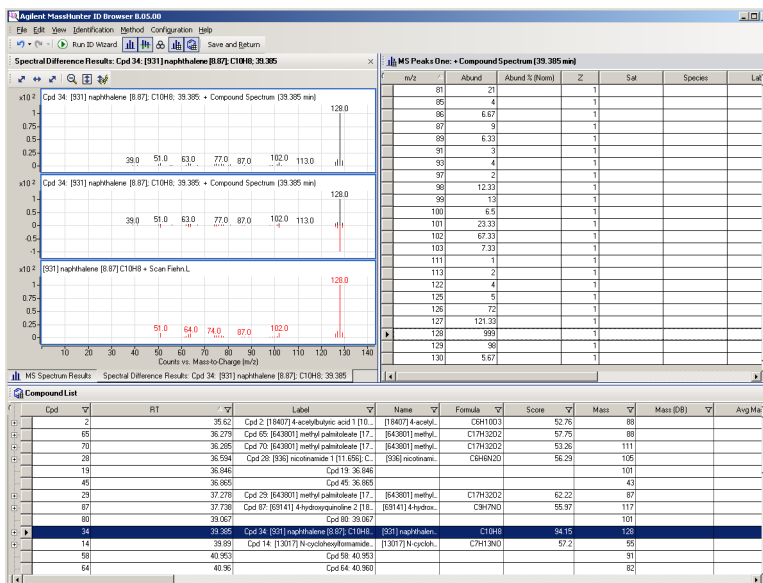

Figure 55 ID Browser user interface for reviewing the results
- 7 Review and make adjustments to the entity identifications as necessary using the ID Browser interface (Figure 55 on page 111).